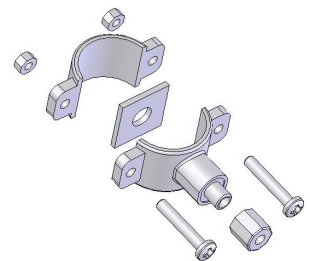

Fig. 2
1. Position drain saddle assembly (Fig. 2) on drain pipe under sink between the P trap and the sink connection.